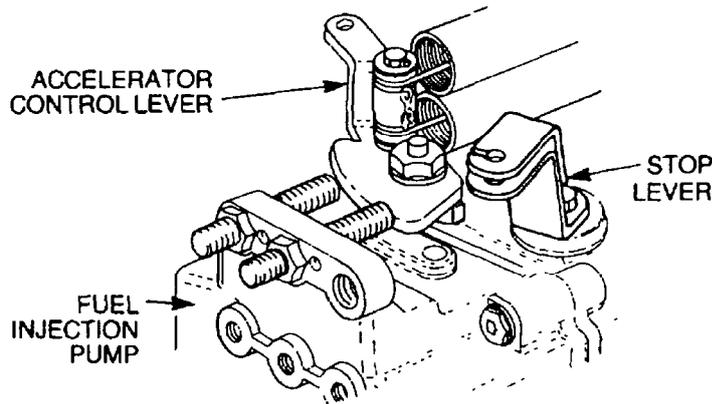

Figure 7 Accelerator Control and Stop Levers
- s. Disconnect the engine stop cable end from the injection pump stop lever (Figure 7).